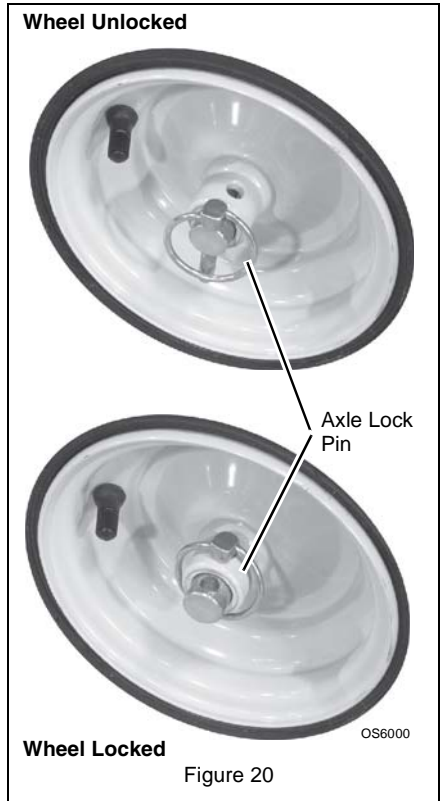

Figure 20
**Axle Lock Pin (921011, 019) (Figure 20)**